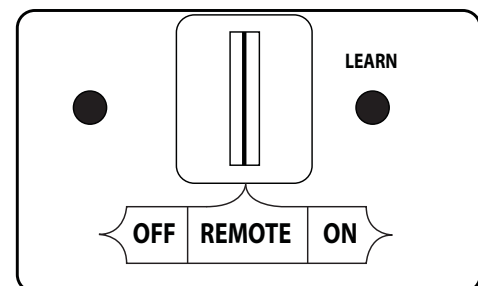

Fig. 35-2 Remote receiver detail (REMOTE)
1. Ensure the pilot is burning. Then locate the 3-position switch on the remote receiver (see Fig. 35-2), and slide the switch to the **REMOTE** position.